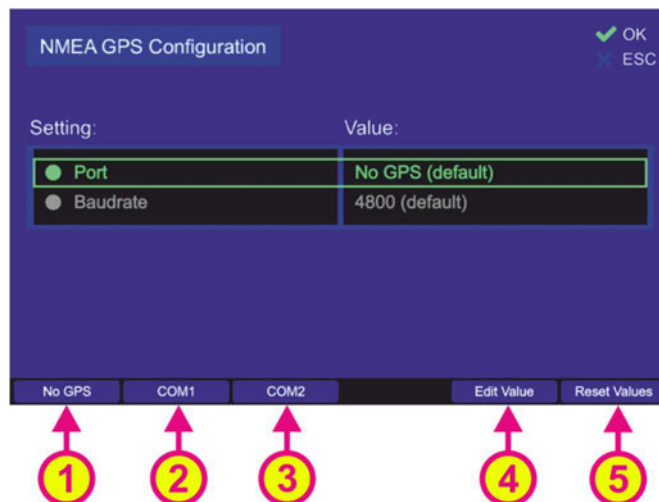

Figure 159. NMEA GPS configuration settings
- Press the button “OK” or hotkey “Edit Value”, while the setting “NMEA GPS” is marked (s. Figure 142). Following sub-menu will appear (s. Figure 159).
- Pressing the hotkey “Reset Values” (s. Figure 159, position 5) will set all menu items to default values.
- To change the baud rate, press the hotkey “Edit Value” while the menu item “Baudrate” is marked (s. Figure 159). The corresponding sub-dialog will be opened (s. Figure 161).